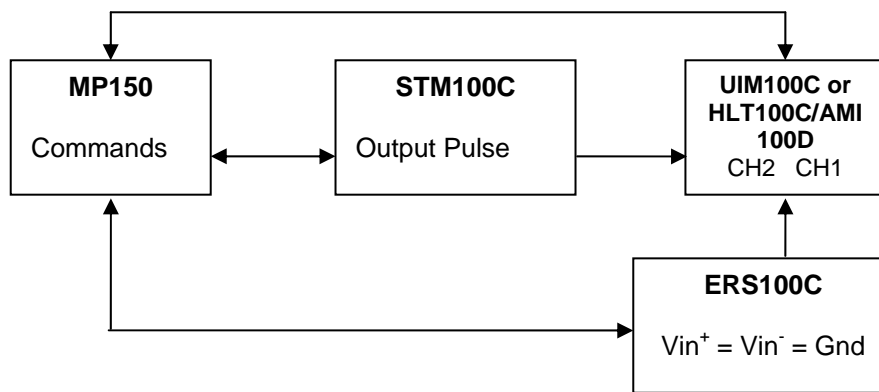

Figure 1 Schematic of Noise Measurement
- a. **Baseline noise measurement:** With the input terminals to the ERS100C amplifier grounded, the acquired input noise voltage signal amplitude should be a flat-baseline trace with an amplitude range of 150 mV p-p or less, assuming 2000 signal pass averages. Use two of JUMP100C cables to short both Vin+ and Vin- to GND. Figure 1 shows a schematic for the noise measurement prior to an ABR test.